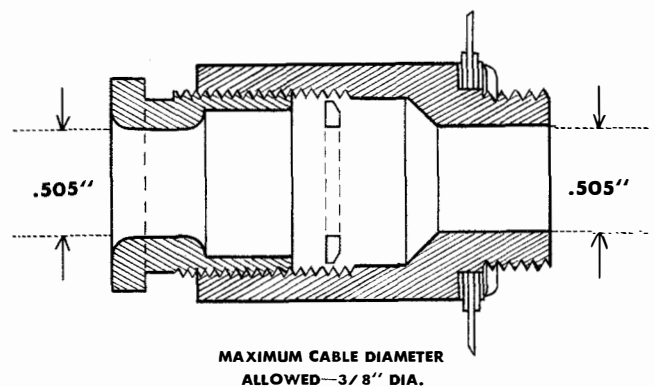

Figure 3-3 Power Supply PP-765/U Terminal Stuffing Tubes.
b. Install supply and output cables, passing them through terminal tubes in sub-base (See figure 3-3) and up to Terminal Block, attaching input leads to Terminal A and Terminal C, and attaching output leads to Terminal plus and Terminal minus. Either the plus terminal or the minus terminal can be connected to ground depending on which is grounded in the load system.